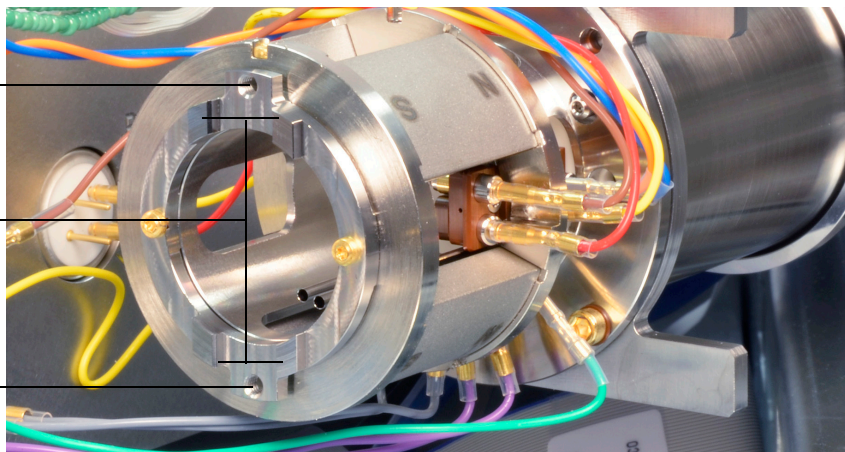

Figure 60. The EI HES radiator
- 3 Align the ion source so that the slotted opening for the lens stack, where the lens numbers are visible, is on the right side. Also, position it so the two attachment tabs of the source mount align with the corresponding slots in the source radiator. (See **Figure 60**). Slide the ion source into the source radiator until resistance is felt.
- 6 Install and hand-tighten the source thumbscrews. Do not overtighten the thumbscrews. (See **Figure 60** on page 185.)